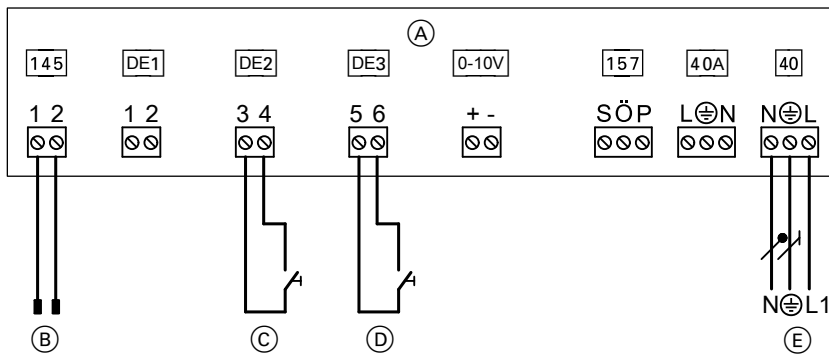

Fig. 51
- To EA1 extension as shown in Fig. 51